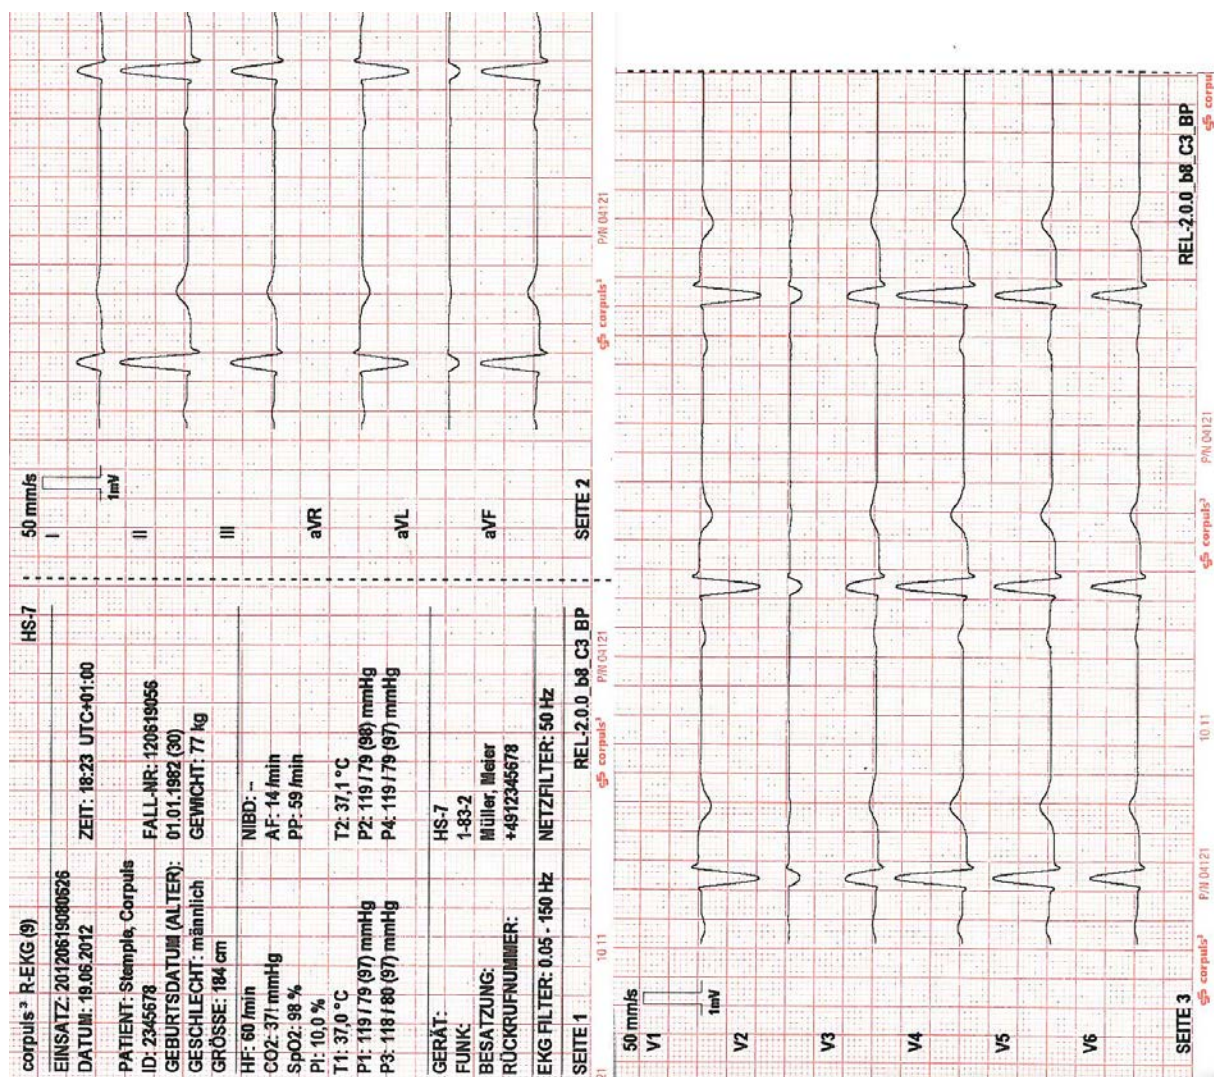

Fig. 6-11 Printout of 12-lead ECG (illustration may differ)
9. With the softkey [Print] the D-ECG is printed out for diagnosis (see Fig. 6-11, page 108) and with the softkey [Send] it is sent.